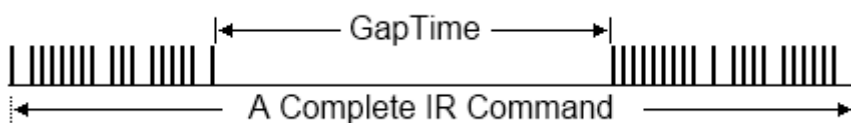

Figure 3-6 The IR protocol with longer GapTime.
- (1) DHCP is only effective if there is a DHCP server in the local area network.
- (2) Idle Timeout is the time interval (0 ~ 65535 minutes) when no communication for the Modbus/TCP connection. After exceeding the timeout, IR-712-MTCP will close the connection. The default is 0 ms (disabled).
- (3) GapTime is the maximum space time in the IR protocol (6 ~ 200 ms; default: 80 ms) E.g.,the GapTime should be longer than 42 ms to learn the IR commands of the Sharp TV successfully. (Figure 3-6)